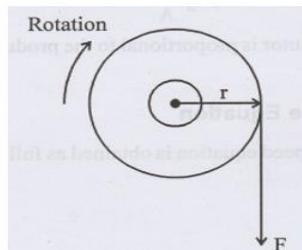

Figure 2.20: Torque
2.7 TORQUE EQUATION: Torque is turning or twisting force about an axis torque is measured by the product of force and the radius at which the force acts. Consider a wheel of radius 'r' metres acted on by a circumferential force 'F' Newton as shown in fig 2.20